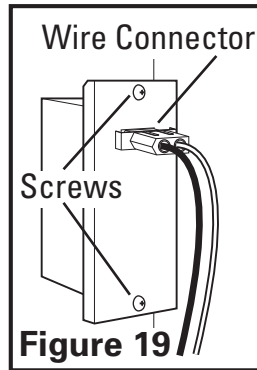
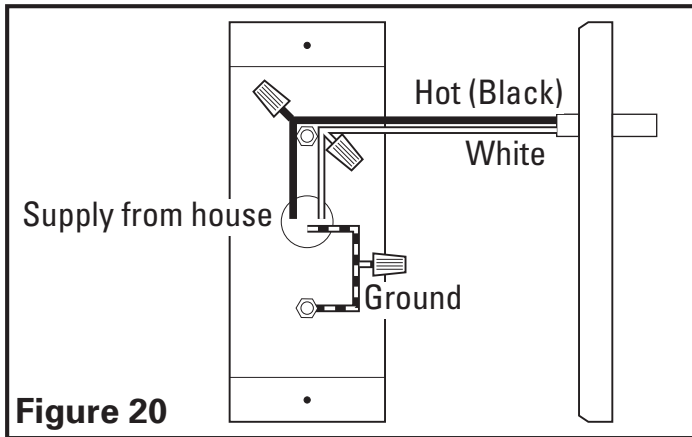

Figure 19
Figure 20
1. Remove the two wire compartment cover screws to gain access into the wire compartment (**Figure 19**). Connect the white wire from the range hood to the white wire from the supply, and the black wire from the range hood to the black wire of the supply. Connect the ground wire from the home (green or bare) to the ground wire (green) from the hood. Use approved methods for all connections (**Figure 20**).
2. Replace the wire compartment cover and tighten screws. Make sure all wiring is securely contained within the wire compartment. If the quick connect wire connector was removed from the receptacle, replace. The connector will only fit one way into the receptacle (**Figure 19**).